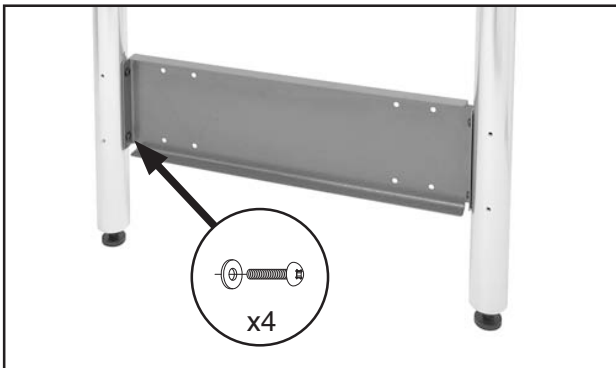

Figure 35. Installing shelf end plate on extension table legs.
9. Fasten the shelf end plate to the legs with (4) M6-1 x 12 Phillips head screws and 6mm flat washers, as shown in **Figure 35**.